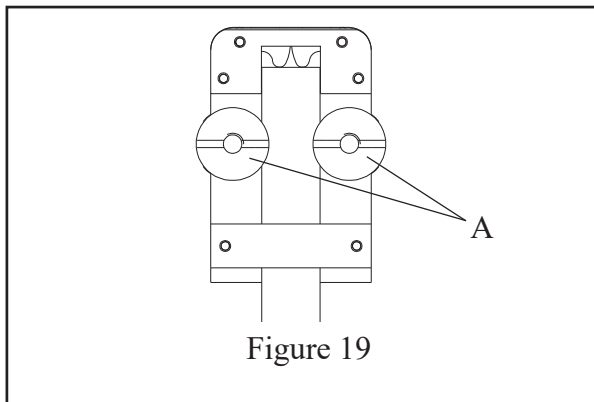

Figure 19
2. To adjust for side-to-side alignment: (Fig. 19)